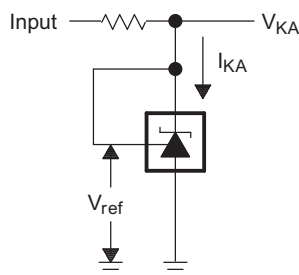

图 17. Test Circuit for  $V_{KA} = V_{ref}$
| $V_{\text{REF}}$                               | Reference Voltage                                                               | See <a href="#">Figure 17</a> | $V_{\text{KA}} = V_{\text{ref}}, I_{\text{KA}} = 1 \text{ mA}$                   |     | ATL43xLIAx devices                                     | 2475 2500 2525 mV     |
| $V_{\text{I(dev)}}$                            | Deviation of reference input voltage over full temperature range (1) | See <a href="#">Figure 17</a> | $V_{\text{KA}} = V_{\text{ref}}, I_{\text{KA}} = 1 \text{ mA}$                   |     | ATL43xLIxQ devices                                     | 10 27 mV              |
| $I_{\text{min}}$                               | Minimum cathode current for regulation                                          | See <a href="#">Figure 17</a> | $V_{\text{KA}} = V_{\text{ref}}$                                                 |     |                                                        | 65 80 $\mu\text{A}$   |
| $ Z_{\text{KA}} $                              | Dynamic Impedance (2)                                                | See <a href="#">Figure 17</a> | $V_{\text{KA}} = V_{\text{ref}}, I_{\text{KA}} = 1 \text{ mA to } 15 \text{ mA}$ |     |                                                        | 0.65 0.75 $\Omega$    |